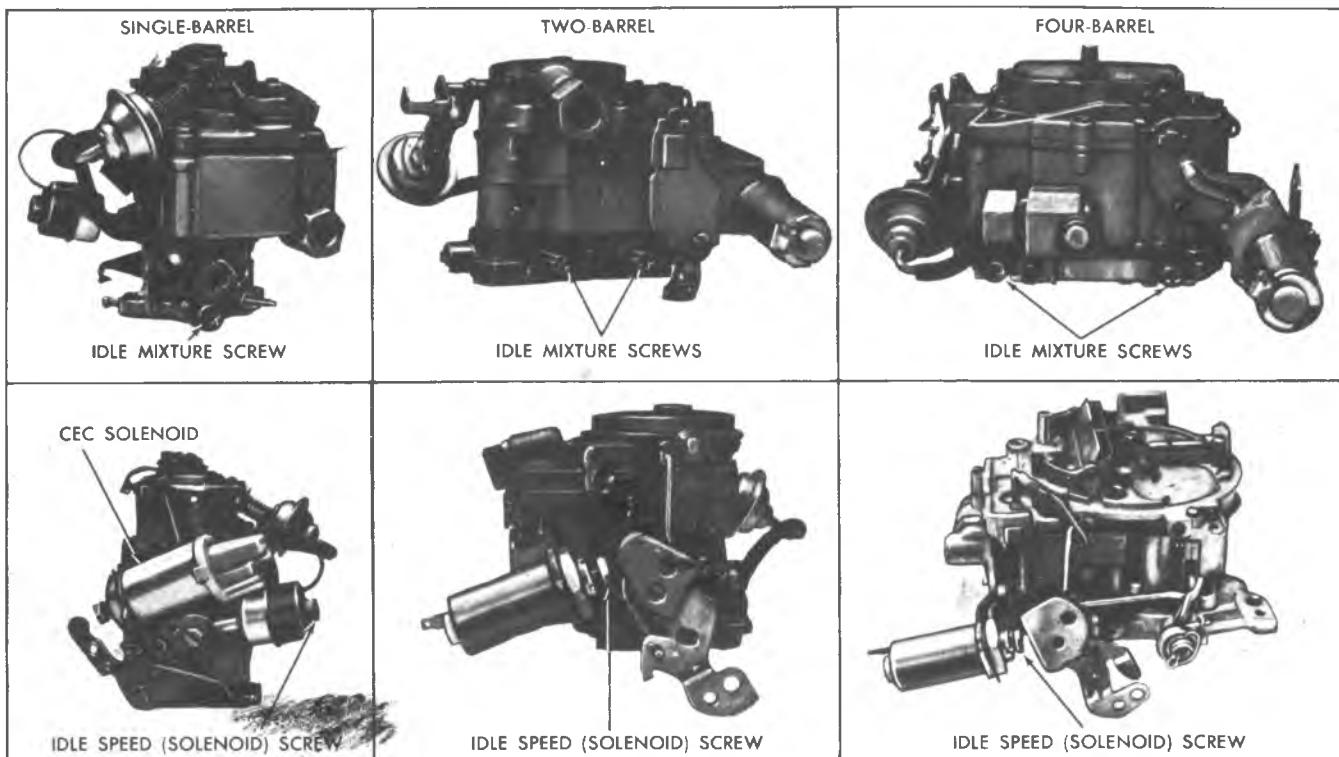

Fig. 16—Idle Speed and Mixture Screws
## ADJUST IDLE SPEED (FIG. 16)
**NOTE:** All carburetors are equipped with idle mixture limiter caps (fig. 16), the idle mixture is preset and "locked in" by these caps - no attempt should be made to adjust mixture. Do not remove mixture screw caps.
**NOTE:** Light-Duty vehicles are equipped with the carburetor mounted CEC solenoid (fig. 16). DO NOT ADJUST THE CEC SOLENOID SCREW.
**CAUTION:** If the CEC solenoid screw (fig. 16) is used to set engine idle or if the solenoid is adjusted out of limits as specified in Section 6M, a decrease in engine braking may result.